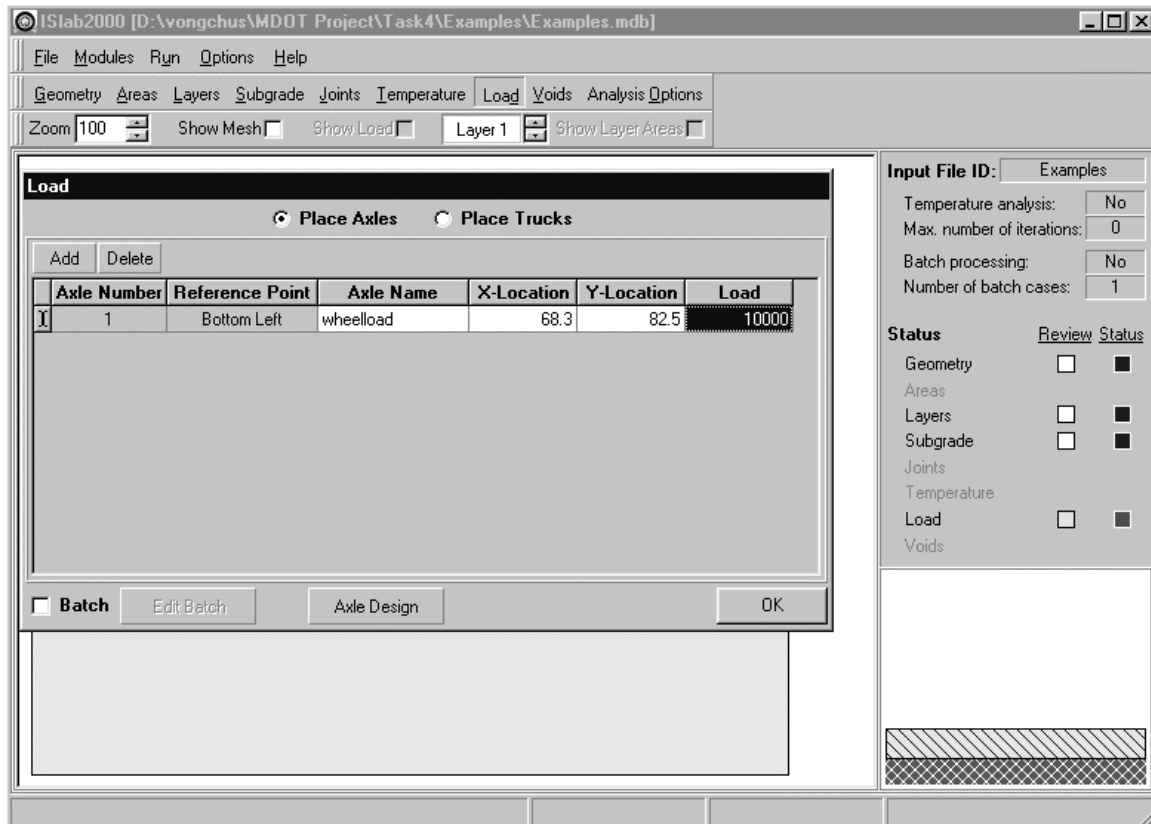

Figure E1-6: Edit Inputs for the Load Module (continued)
- Step 8: On the load panel (see Figure E1-6), click **Add** to add an axle.